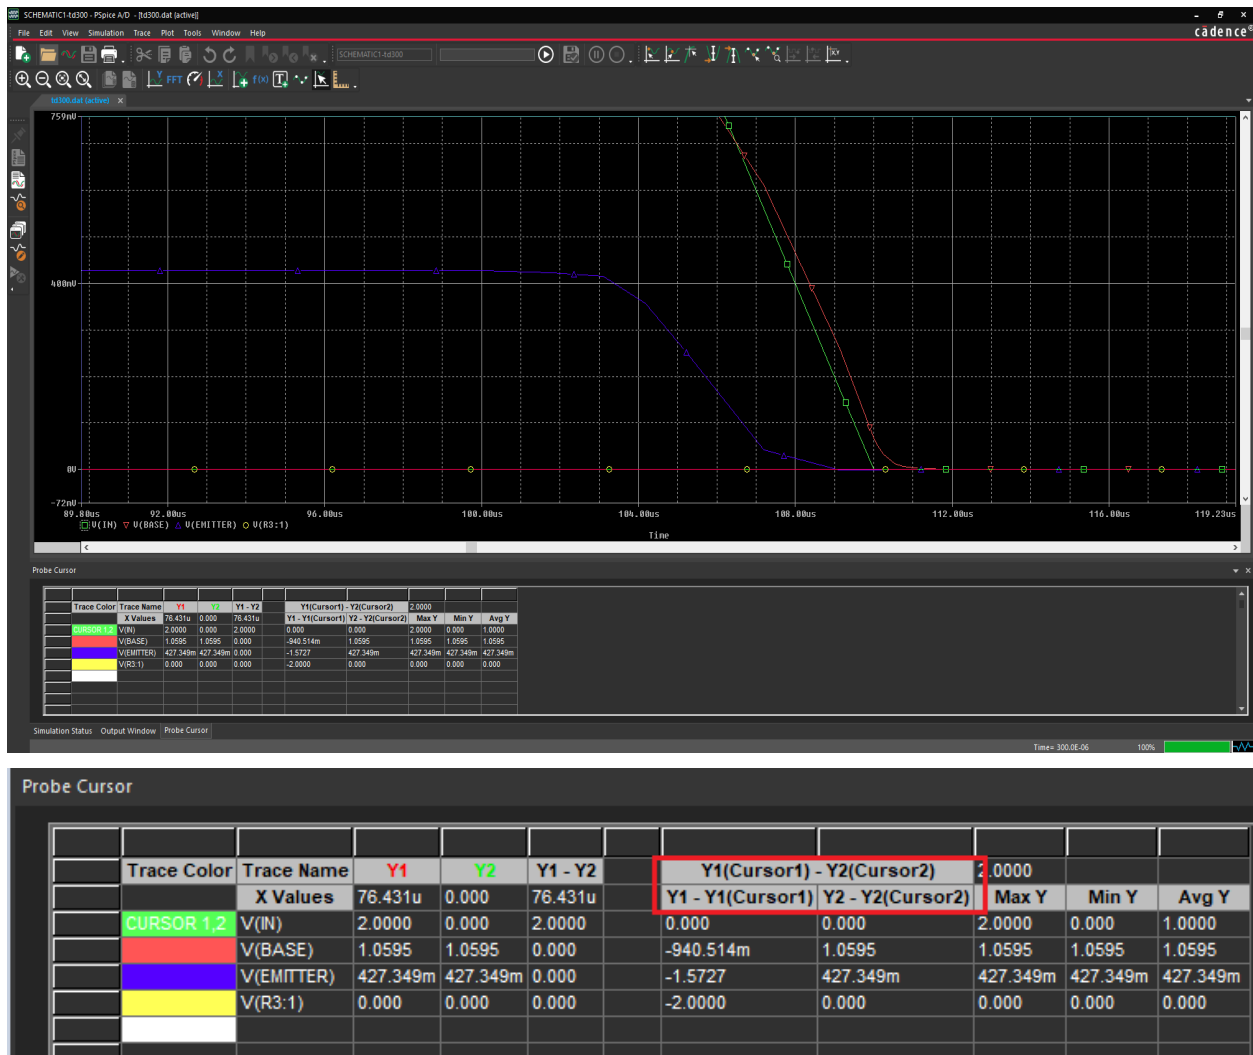

Figure 2-35: Measurement using the A1 and A2 cursors
53. Note the probe cursor data, as shown in Figure 2-35. The Probe Cursor Display reports the absolute and relative position of cursor1 and cursor2, as well as a wealth of additional values related to cursors and traces. The data you seek is a maximum in the encircled value in Figure 2-35. This field represents the Y (voltage) difference between the two cursors on their respective traces.
54. Reposition the cursors horizontally by simultaneously holding the left and right mouse buttons and panning left/right to find the maximum reported differential voltage. This should be at the coordinates shown in Figure 2-35 – reporting a voltage difference of about 87mV.
The reported event time matches the timepoint that was determined by your manual measurements in Figure 2-35. The usefulness of assertions as a runtime conditional test has been demonstrated. You will now measure waveform details using a third method.